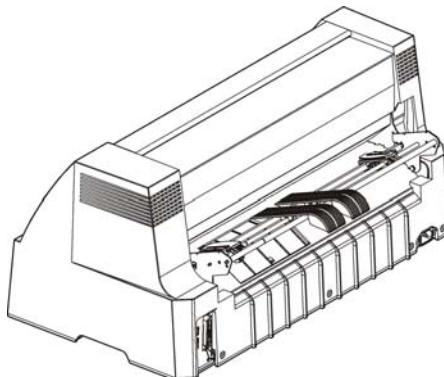

Figure 2-13 Install the tractor
1. Plug the USB cable A end (flat shape) into the computer's USB interface. As shown in Figure 2-13.